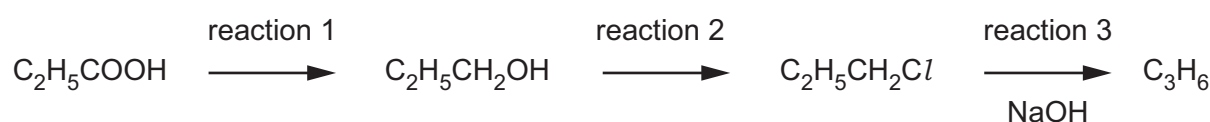

Fig. 4.1
- 4 Fig. 4.1 shows a possible synthesis of propene, C_3H_6 .